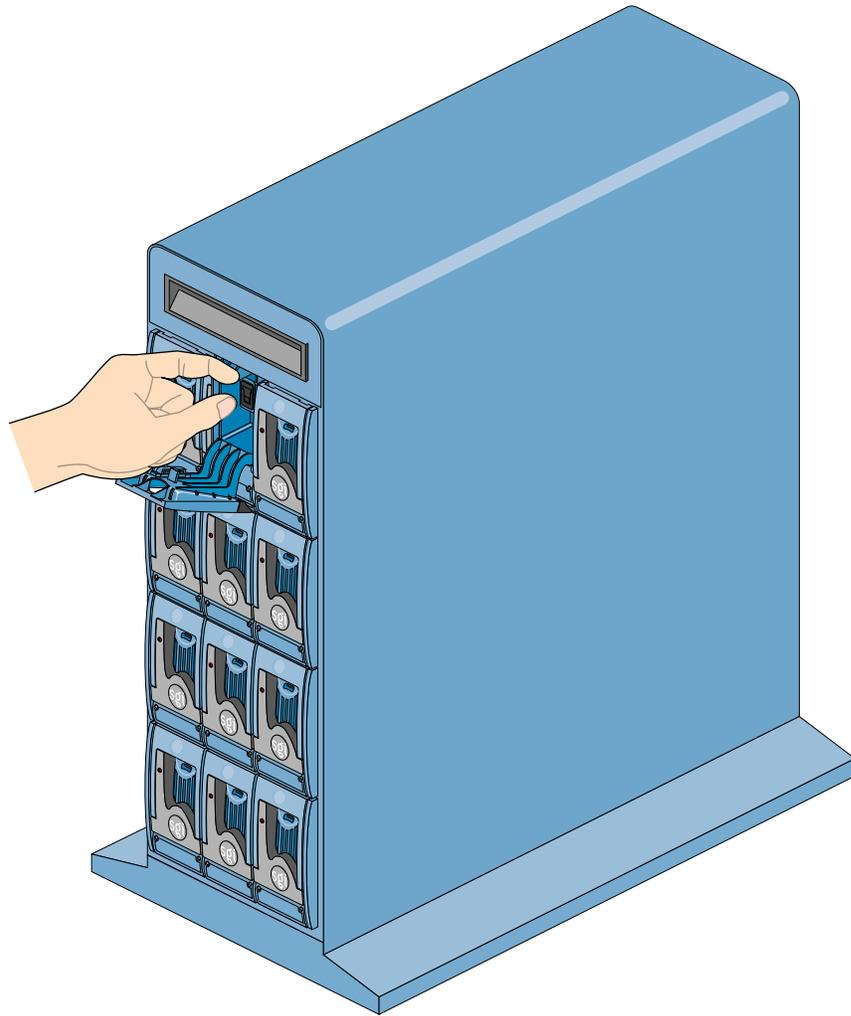

Figure 6-5 Inserting the Disk Drive Module: Drive Seated
6. Push the disk drive module gently into the chassis until it is stopped by the camming lever on the right of the module; see Figure 6-5.